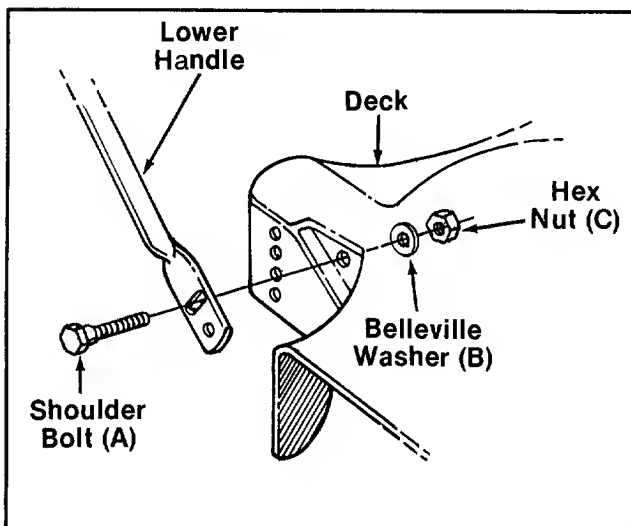

FIGURE 2.
- F (1) Hex Bolt 1/4-20 x 1.50" Long
- G (1) Hex Lock Nut 1/4-20 Thread
- H (2) Shoulder Bolts 2-5/8" Long (Rear Wheels)
- I (2) Spacers
- J (8) Belleville Washers 3/8" I.D.
- K (4) Hex Nuts 3/8-16 Thread
- L (2) Cable Ties
- M (2) Shoulder Bolts 2 1/4" Long (Front Wheels)
← 3. Line up the upper slotted hole in lower handle with the mounting hole on deck. Place shoulder bolt (A) through lower handle and deck. See figure 2.